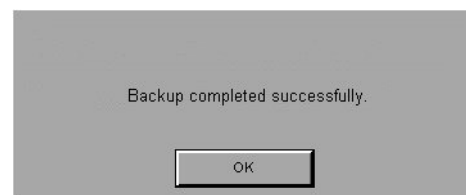

Figure 14.12 Backup Completed Message
- 7 When the backup has completed, the message shown in Figure 14.12 will appear. Select OK to return to the File Functions menu.